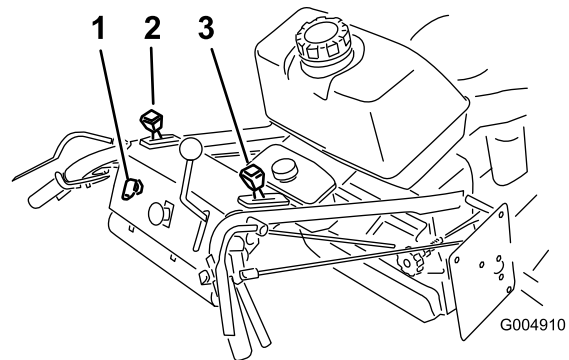

Figure 6
6. Move the throttle control to fast and move the choke lever to the on position before starting a cold engine (Figure 6).
2. Move the throttle lever to slow (Figure 6).